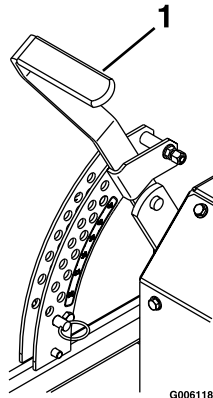

Figure 8
3. Raise the deck height lever to the transport position (also the 5 inch (12.7 cm) cutting height position)(Figure 8).